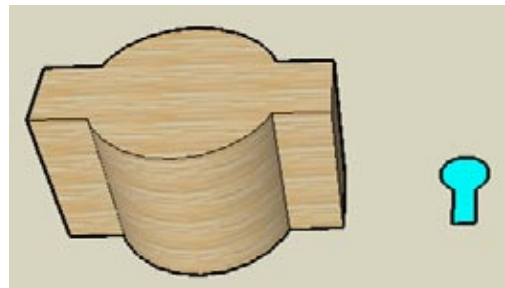

Figure 2-42
1. Start with a building like the one in Figure 2-42, with at least one round wall and with no dividing edges on the top face. Add a Follow Me face next to, but not touching, the building. You can create your model from scratch, or download my Nonadjacent Path model from the 3D Warehouse.